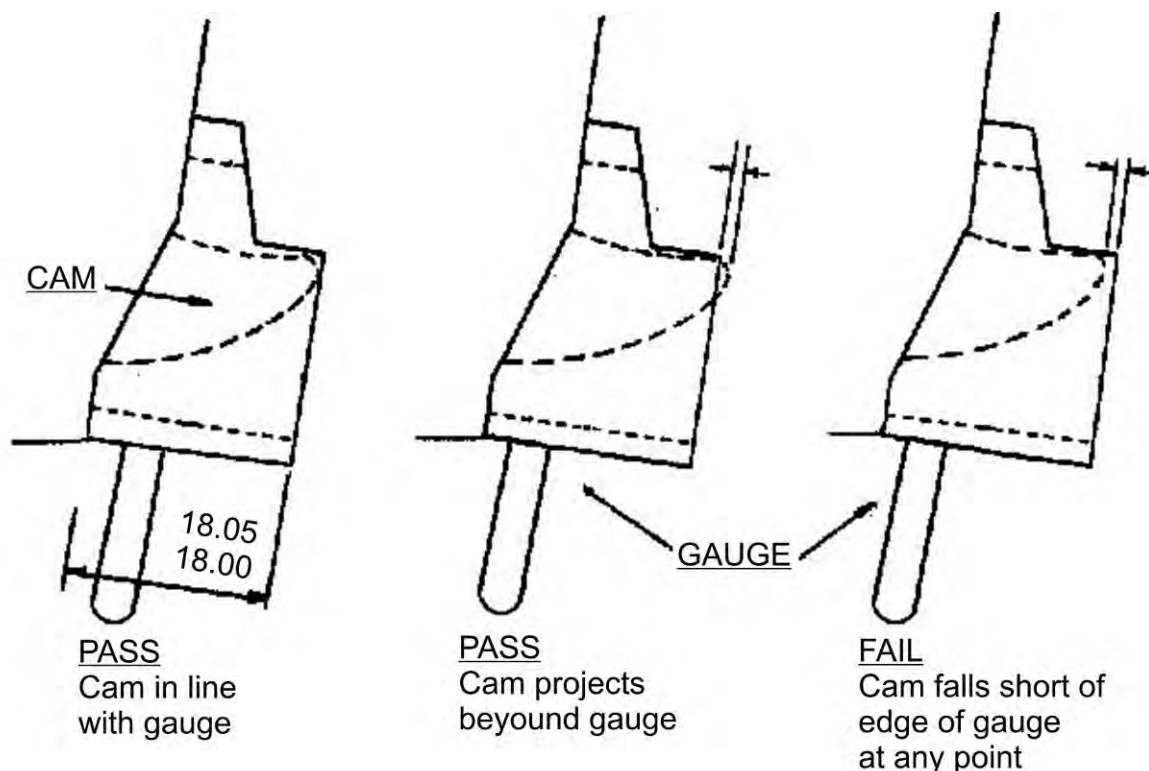

Figure 1: Gauging Striking Plate Cam
8. Check the projection of the cam from the striking plate using gauge (see Special Tools item 1, and Figure 1).
1. Renew the tapping plate and stand pillar in accordance with the specified document (see Reference Documents item 1 Procedure K) where the striking plate cannot be resecured by tightening the screws and where more than 600mm of the stand pillar requires renewal.
- 3,5-8. Change striking plate in accordance with the specified document (see Reference Documents item 1 Procedure E) and overhaul in accordance with the specified Technical Specification (see Reference Documents item 2).
Job No. OL 6202 Figure 1 - Use of gauges (see Special Tools item 1 and 2) to check the projection of cam from the striking plate